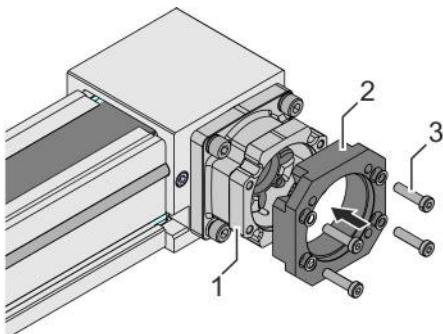

Fig. 20: Assembling the motor plate
- 8.** Place the motor plate (Fig. 20/2) on the coupling housing (Fig. 20/1).
- 9.** Tighten 4 screws (Fig. 20/3) alternating diagonally: